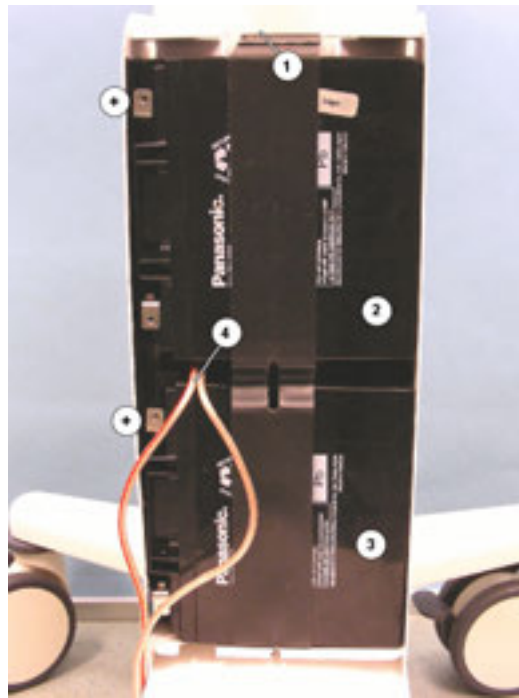

Fig. 110 External batteries: Batteries and cables
- 5 Pay attention to the polarity of the lower battery (Fig. 110/3) (the "positive" terminal is at the top). Fit the lower battery in the battery pack.
- 6 Place the electrical cables (Fig. 110/4) on the bottom battery so they are not trapped, as shown in the illustration.
- 7 Pay attention to the polarity of the upper battery (Fig. 110/2) (the "positive" terminal is at the top). Insert the battery in the battery pack and hold it firm during the further assembly procedure.
- 8 Insert the strap in the upper support (Fig. 110/1).